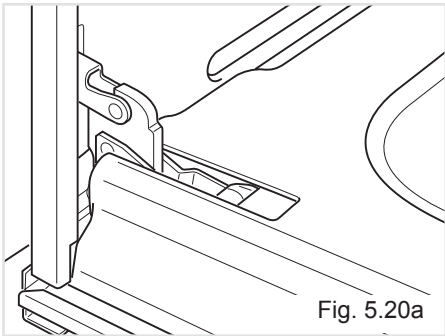

Fig. 5.20a
- Open the door to the full extent (fig. 5.20a).